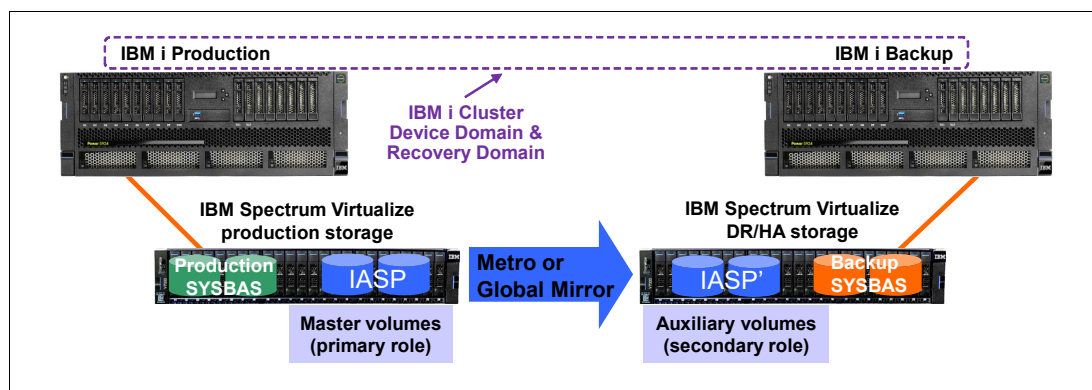

Figure A-12 IBM i IASP replication with IBM Spectrum Virtualize
IASP based replication for IBM i is used for a high availability (HA) solution where an IBM i production and an IBM i backup node are configured in an IBM i cluster and the IASP that is replicated by IBM Spectrum Virtualize remote replication is switchable between the two cluster nodes as shown in Figure A-12 on page 547. In this scenario the IBM i production system and the IBM i backup system each have their own non-replicated SYSBAS volumes and only the IASP volumes are replicated. This solution requires IBM PowerHA